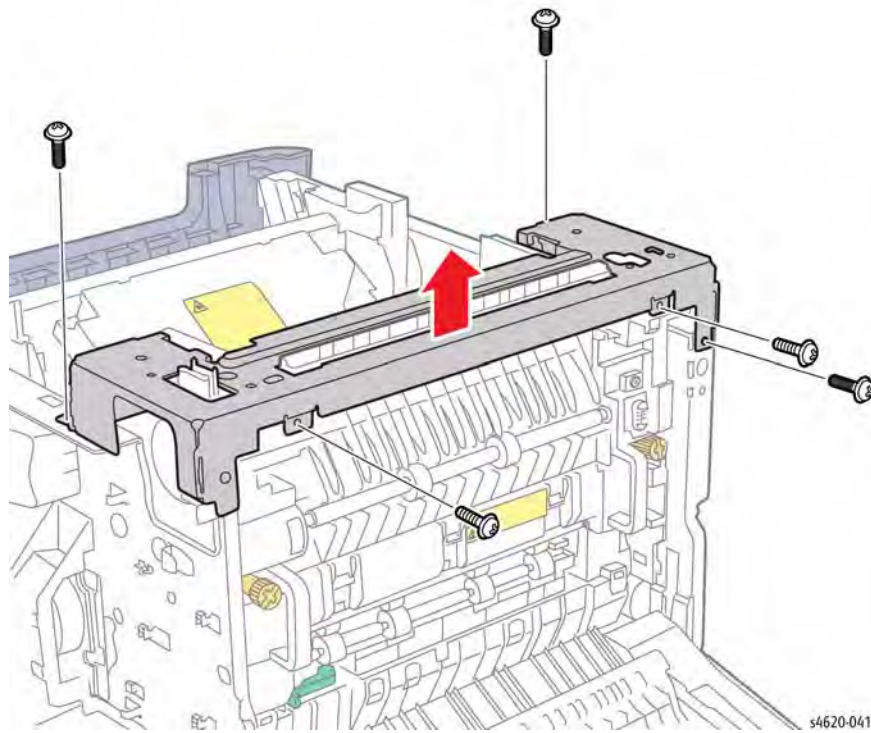

Figure 2 Remove the rear support bracket
10. Lift the bracket and rest on the printer chassis, Figure 2.